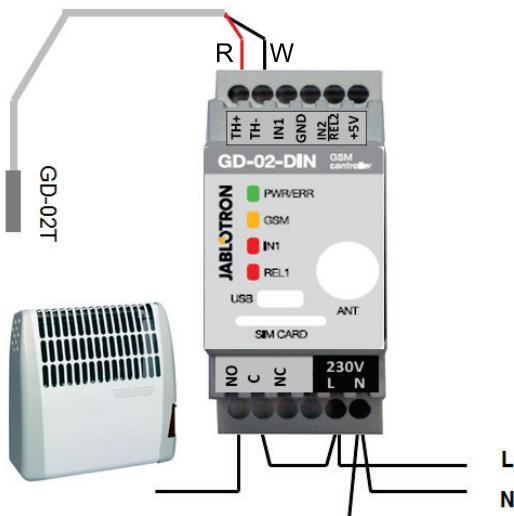

Figure 5: Measuring the temperature and electric heater control.
- A controlled device has to be connected via the REL1 (see Figure 5) power output contacts in this mode.
- Using the GD-Link software on the "Thermostat" tab enable the function "Activate thermostat (REL1) mode". Set the "Comfort (TC) and Economical (TE) temperatures". For the Thermostat mode „Hysteresis“ can be set for regulation within a 0.1–9°C limit (tolerance because of thermal fluctuations).